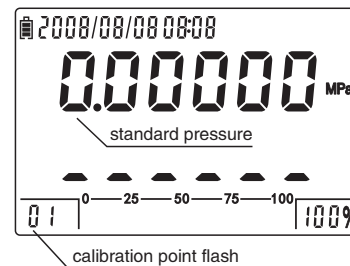
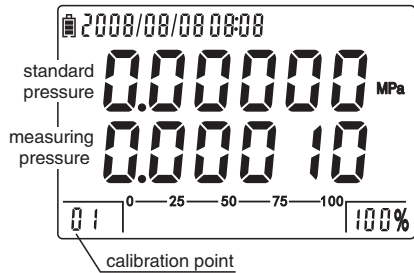
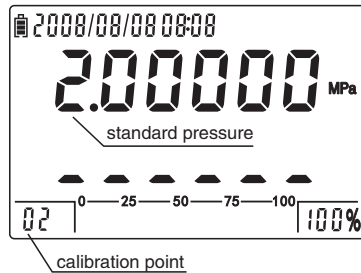
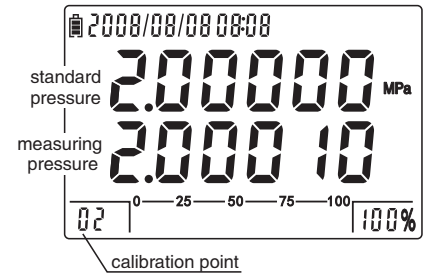

Figure 5-3-1: 1st point entrance
Figure 5-3-2: 1st point calibration
Figure 5-3-3: 2nd point entrance
Figure 5-3-4: 2nd calibration
(1) Press  to enter into passport menu, input the password "2003" and press  to enter into calibration menu.
(2) Select **IP\_CAL** and press  to enter into the entrance interface. The **[ 01 ]** of left reading area is 1st calibration point, the user can select points by using  . Please press  to start calibration. (as figure 5-3-1)
- (3) The first line flashes to remind the user to input the standard pressure of 1st point. (In this example, it is 0.00000 MPa)
- (4) As figure 5-3-2, screen displays the interface of 1st calibration point. Please supply 0.00000 MPa pressure, and press  to finish the 1st point calibration after it is stable. As figure 5-3-3, switch to the 2nd point calibration interface.
- (5) Under the interface of 2nd calibration point, the first line flashes for new standard pressure. In general, it is the default (In this example, it is 2.00000 MPa), press  for next step.
- (6) As figure 5-3-4, screen displays the 2nd point calibration interface. Please supply 2.00000 MPa pressure and press  to finish the 2nd point calibration after it is stable. The screen switches to the interface as figure 5-3-1 and the calibration is finished.
- (7) Press  to return to the calibration function menu. The calibration is effective if **2P\_0** changed to **2P\_1**.